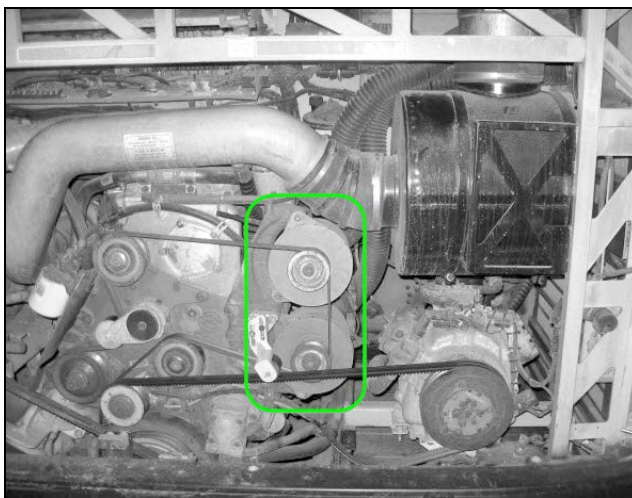

Fig.1 Bosch T1 alternators
1. Open the engine compartment doors and locate the two alternators (Fig.1).